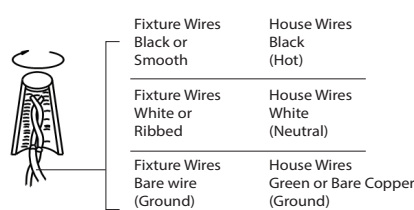

FIG. 3
Note: Due to limited space within the canopy, shorten the wires as necessary to make the installation easier. Make sure to identify and label all the wiring properly (Fig. 3) before any trimming/shortening. **Warning:** Modifying the fixture may result in voiding the warranty of the product. Only licensed persons should trim cables and perform rewiring.
6. Connect the fixture wires to the 3CCT switch as shown in Fig. 3. Brown to brown, blue to blue, red to black. Ensure wire connectors are secure. The lamp can switch between three color temperatures (3000K-3500K-4000K), which can be adjusted to your preference with the switch in the canopy (Fig. 3).